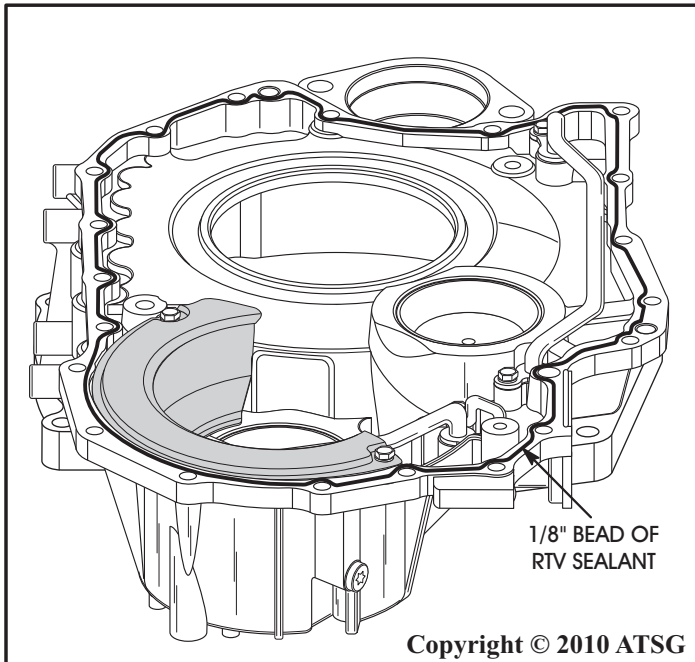

Figure 193
1. Apply 1/8 inch bead of RTV sealant to converter cover, as shown in Figure 193.